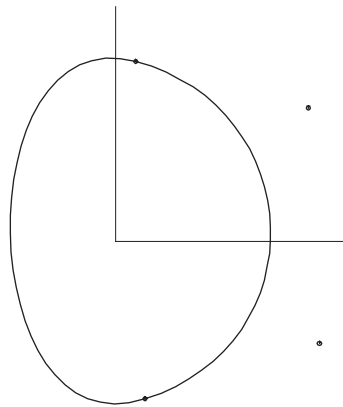

Fig. 12
- 7 Make a  **B-spline Curve**. **Check that the control points are listed in the correct order** (if they are not, select them again now). **OK** to accept defaults (Fig. 12). This should match our distribution file TANPOINTS2.sldprt .